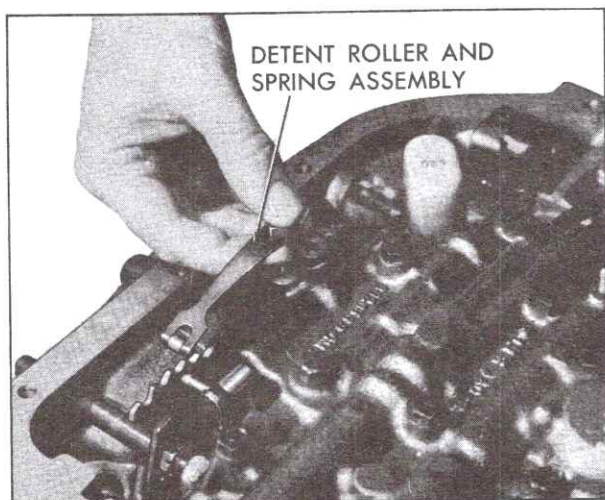

Fig. 7-104 Installing Detent Spring and Roller Assembly
5. Install detent spring and roller assembly, Fig. 7-104, and attaching screw. Tighten screw to 8 foot-pounds.